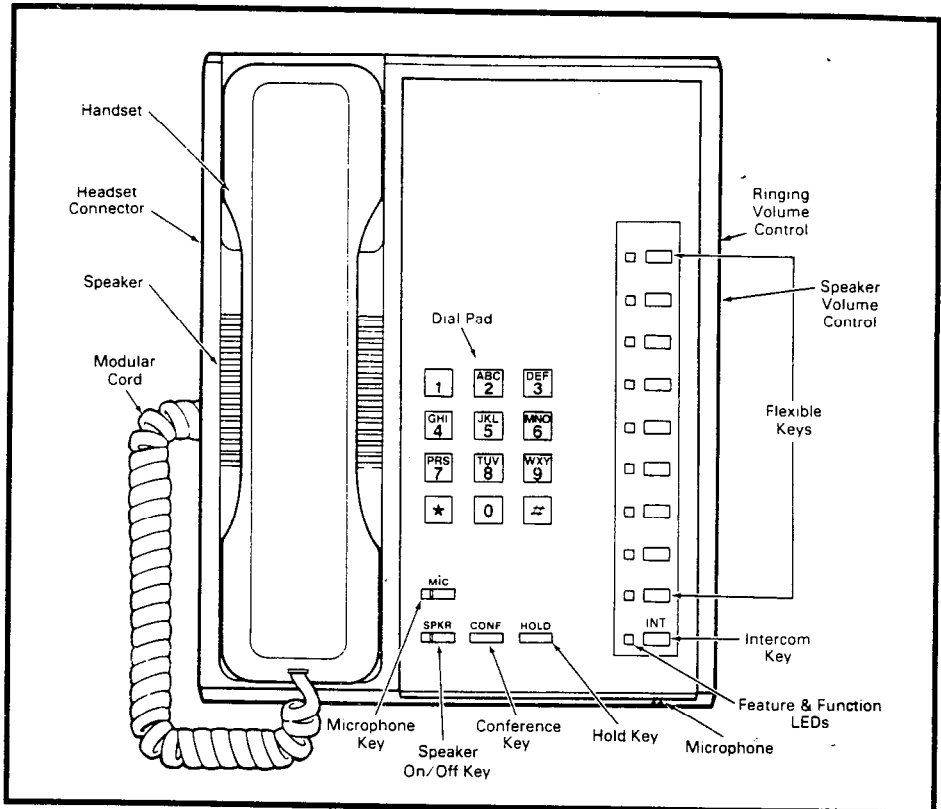

FIGURE 5—10-key ELECTRONIC KEY TELEPHONE
- 1) 10-key EKT (Figure 5): Available in two models, as a speakerphone or with handsfree answerback (HFU) on intercom calls only.